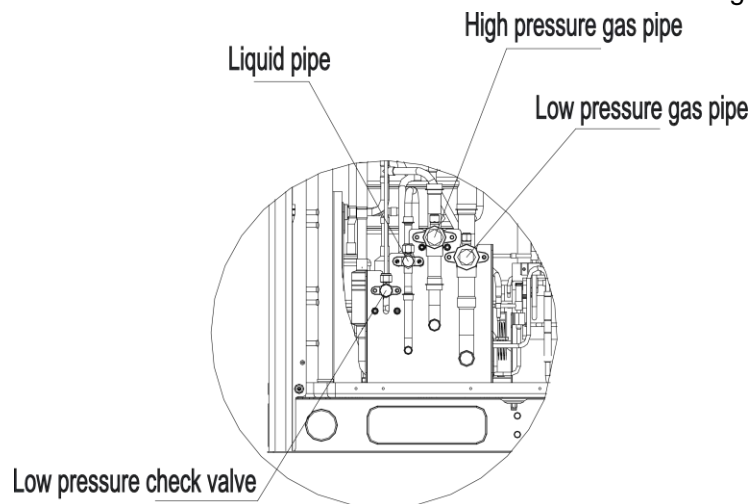

Fig.29
- (1) Confirm outdoor liquid and gas valves are closed. Air purging from the nozzle located on liquid and gas valves by vacuum pump. See Fig.29.